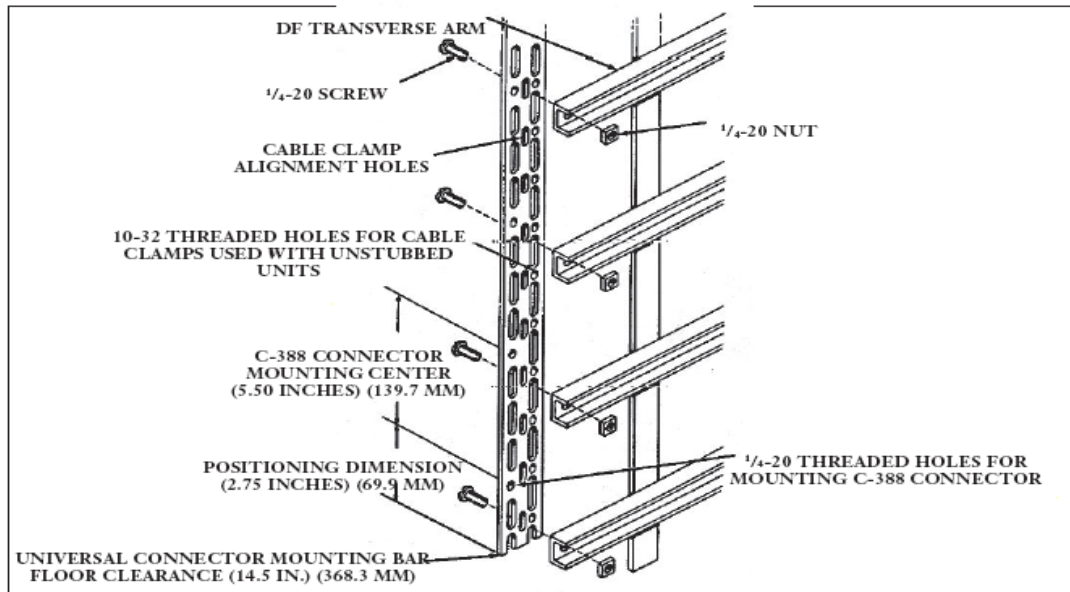

Figure 2
4.3.3 On distributing frames with removable connector mounting bars, the universal connector mounting bar is used in place of the existing bar by attaching it to the ends of the transverse arms (Figure 2).